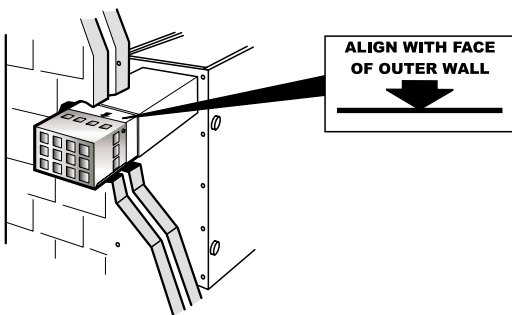

Fig. 26
- 10 **Important:** The stainless steel flue terminal must be located correctly to allow access to the terminal fixing screws. Ensure that the marker on the outer wall sleeve is aligned with the face of the outer wall. See Fig. 26.